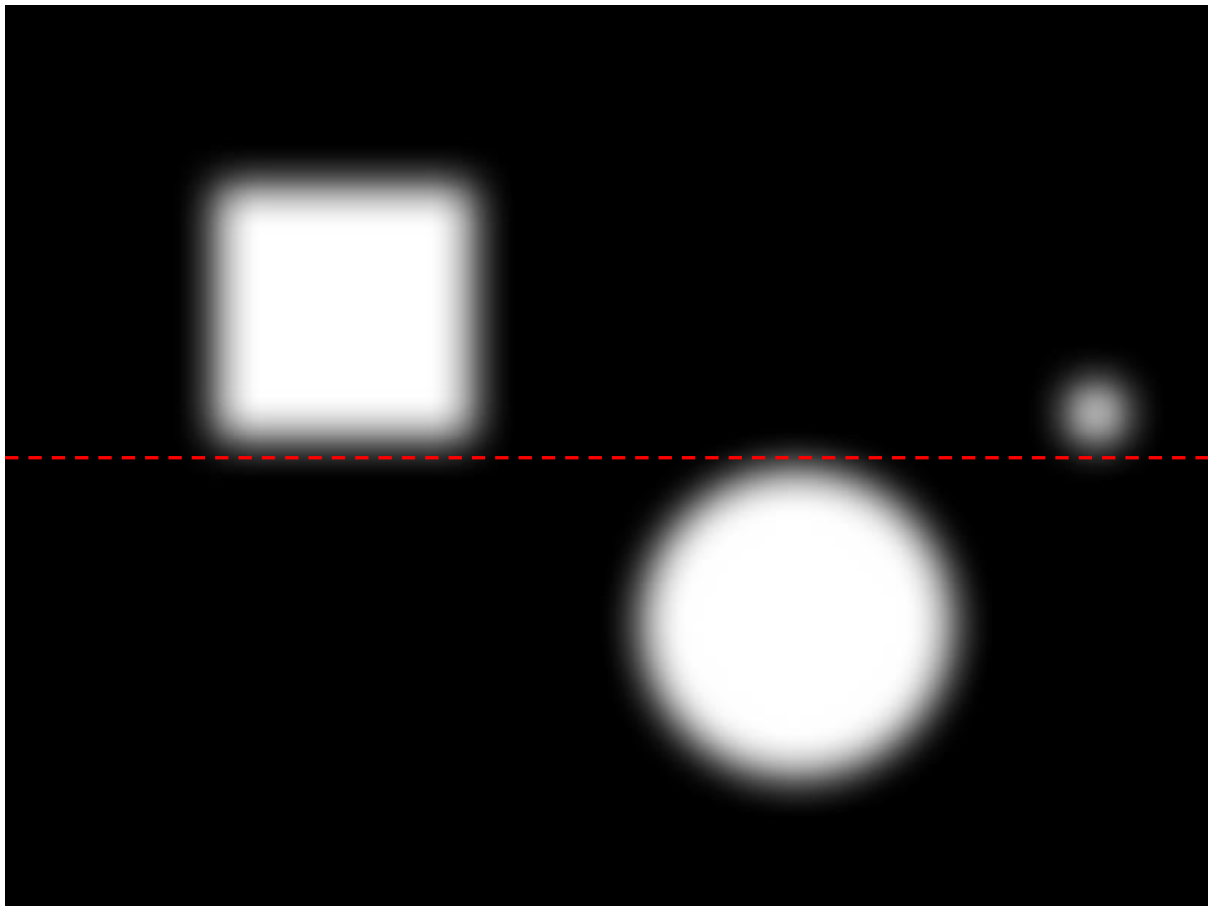

FIGURE 1 - LIKELIHOOD FIELD
- (c) Sketch the likelihood for the scan (dotted red line) in the likelihood field in Figure 1. Include all sources of error.